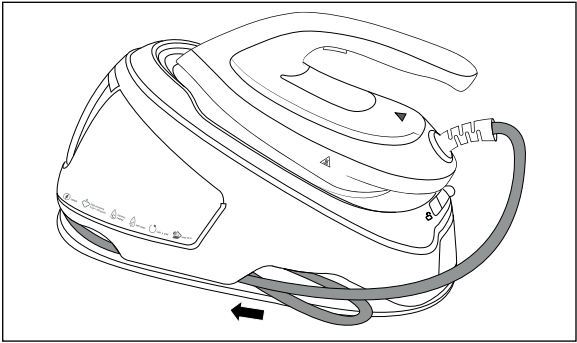

Fig. 9
- 5) Fold the supply hose **16** in the middle and push it into the side storage compartment **8** on the appliance (see Fig. 9).